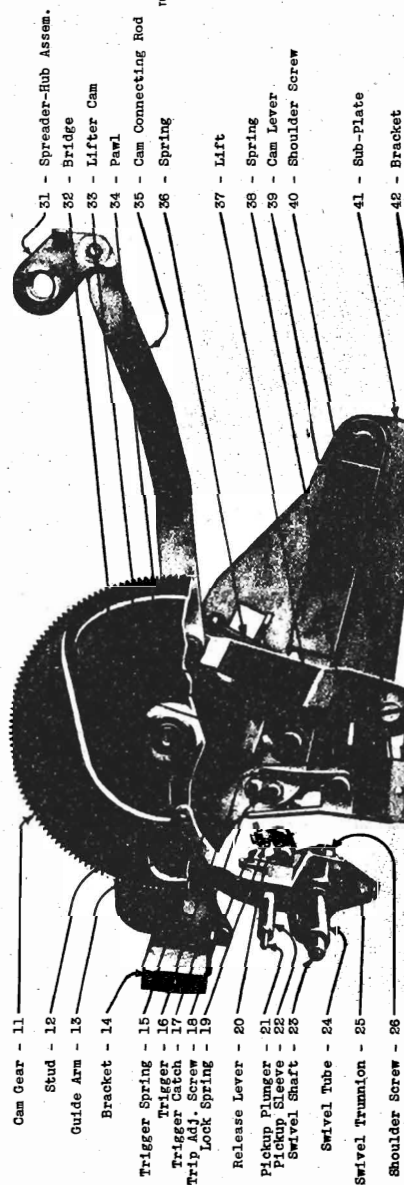

Fig. 10. Sub-Plate Assembly
C. ADJUSTING HEIGHT TO WHICH TONE ARM RISES. The arm should rise, during the change-cycle, high enough so that it clears by only $\frac{1}{8}$ in. the record above it, next to be played. (Be careful, before deciding that adjustment is necessary, to see that the record at bottom of stack is not a warped one.) To make this adjustment, **loosen the lock nut on Pickup Sleeve 22** (see Fig. 10) and **turn the sleeve to lengthen or shorten Pickup Plunger 21.** When correct adjustment is found, **tighten lock nut again.**